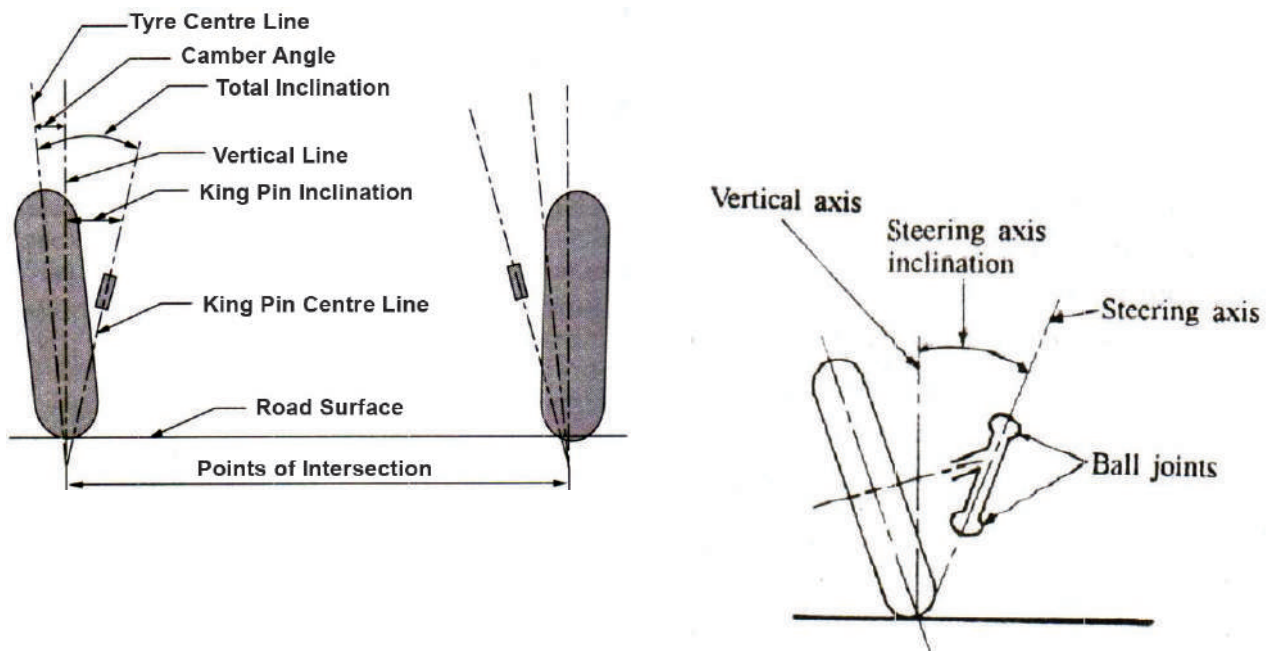

Fig.4.2.5. a) King Pin Inclination
- **Combined angle (Total or included angle):** Combined angle or included angle is the angle formed in the vertical plane between the road wheel axis and the axis of king-pin (steering axis). **Combined angle is equal to camber angle plus king pin inclination (or steering axis inclination)**, refer fig 4.2.5(a).